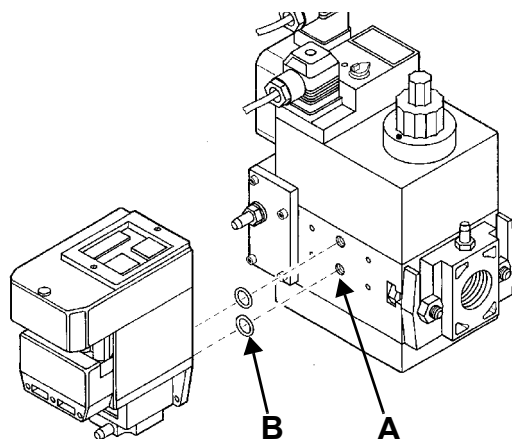
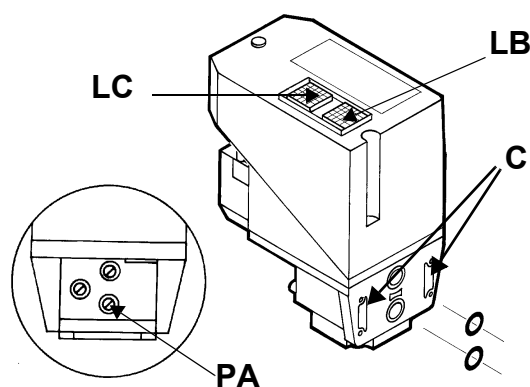

Fig. 7
Fig. 8
- 3 remove the Multibloc's screw plugs (Fig. 7-A);
- 4 insert sealing rings (10,5 x 2,25) into VPS 504 (Fig. 8-B, Fig. 7-B)
- 5 Torque screws 3, 4, 5, 6 (M4 x16) Fig. 7-C
When wishing to monitor the test, install a pressure gauge ranged to that of the pressure supply point **PA** (Fig. 8). If the test cycle is satisfactory, after a few seconds the consent light **LC** (yellow) comes on. In the opposite case the lockout light **LB** (red) comes on. To restart it is necessary to reset the appliance by pressing the illuminated pushbutton **LB**.